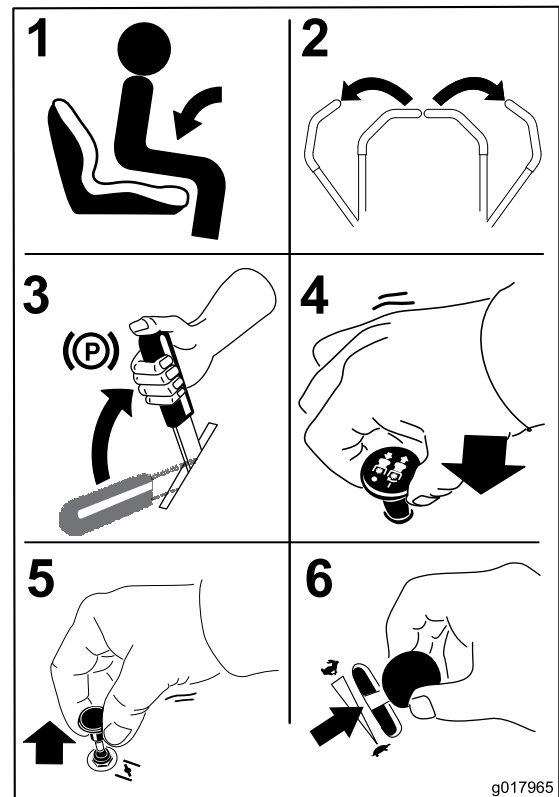

Figure 14
1. Sit down on the seat (Figure 14) and fasten the seat belt.
2. Move the motion controls outward to the neutral lock position (Figure 14).
3. Set the parking brake (Figure 14); refer to Setting the Parking Brake.
4. Move the blade control switch (PTO) to the Off position (Figure 14).
6. Move the throttle halfway between the fast and slow positions (Figure 14).